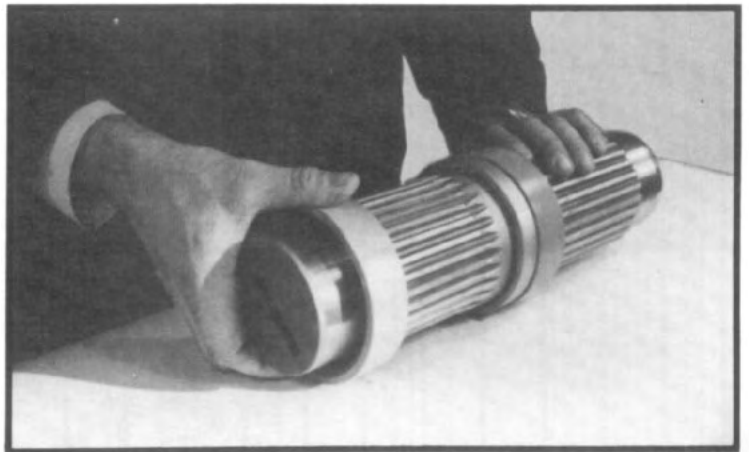

Fig. 81
3. Place two identical spacer rings over intermediate shaft. (Inside diameter chamfer facing the center of the shaft.) (See fig. 81.)